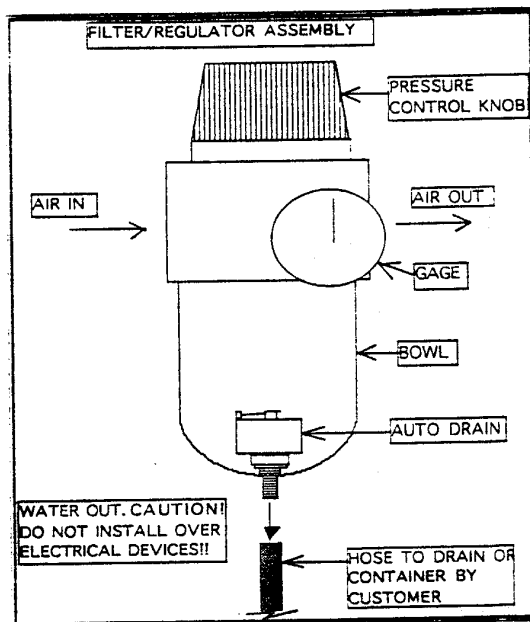

FIGURE 9 - AUTO DRAIN
**AUTO DRAIN - FILTER/REGULATOR** (See Figure 9)
This option provides automatic water removal from the filter/regulator. The auto drain device installs in the bowl in place of the standard manual drain device (See Figure 9):